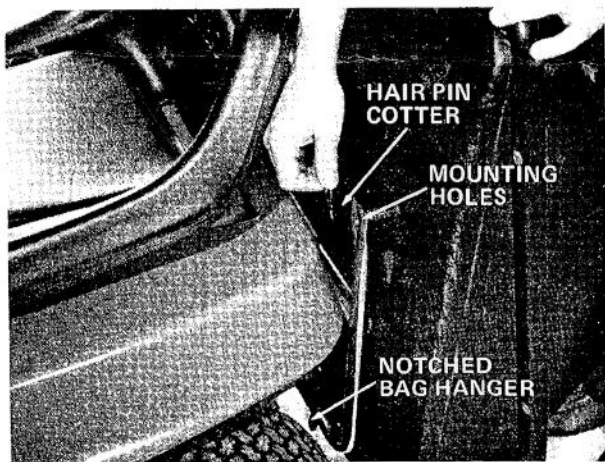

Figure 5
4. Position notches on bag hangers on rod of bag support (Fig. 5). Rotate grass basket up so mounting pins line up with mounting holes in bag support (Fig. 5). Push pins through holes and retain with hair pin cotters (Fig. 5).